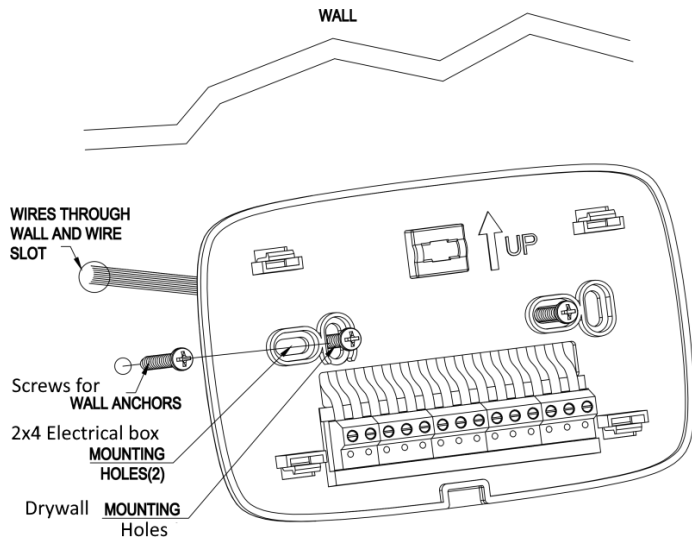

Fig.5. Mounting wall plate.
4. Position the wall plate over the holes, pulling wires through the wiring opening. See Fig.5.